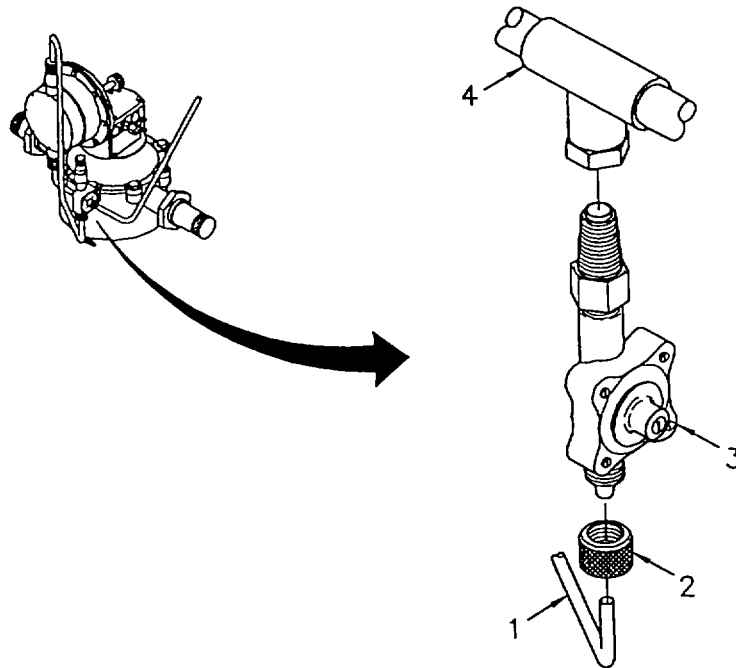

Figure 3-7. Antisiphon Valve and Tubing
- (1) Disconnect tubing (1, Figure 3-7) by unscrewing tube nut (2) from valve antisiphon (3).
- (2) Unscrew antisiphon valve (3) from outlet pipe assembly (4).
- (1) Install antisiphon valve (3) into outlet pipe assembly (4, Figure 3-7).
- (2) Install tubing (1) onto antisiphon valve (3).
- (3) Screw tube nut (2) onto antisiphon valve (3) and hand tighten.
- (4) Install discharge tubing (refer to para. 3.7).